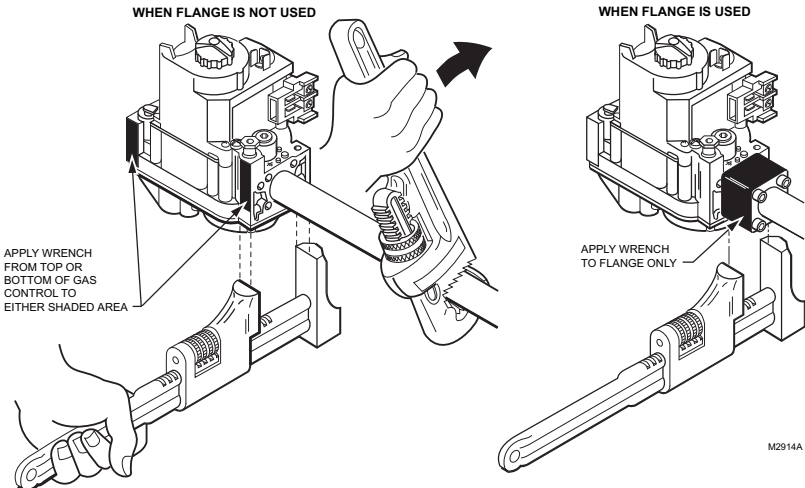

Fig. 4. Proper use of wrench on gas control with and without flanges
6. Connect pipe to gas control inlet and outlet. Use wrench on the square ends of the control. If an adapter is used, place wrench on adapter rather than control. Refer to Figs. 4 and 5.